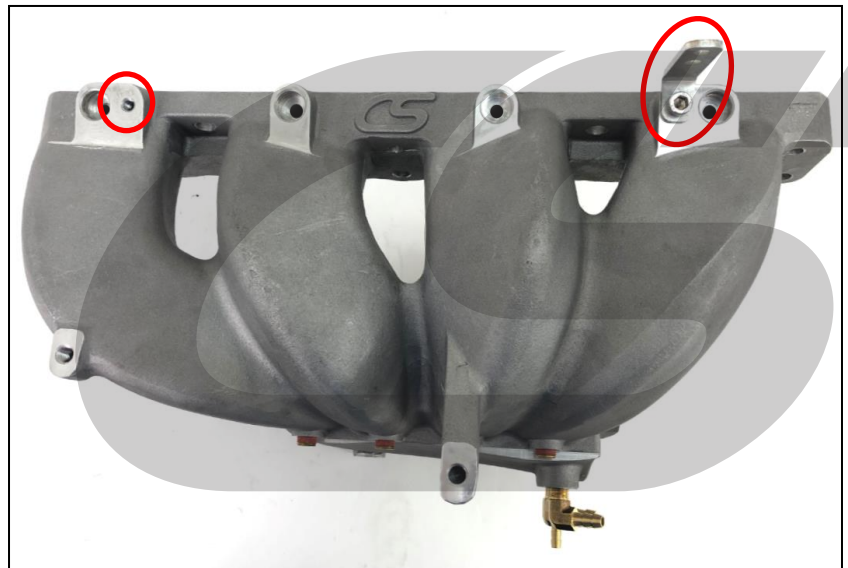

Figure 11a
- a) **Attach the fuel rail brackets to the intake manifold** using the supplied M6x1.0x12mm socket head cap screws. Ensure they are straight before tightening until snug with a 5mm Allen wrench/socket. One shown installed in Figure 11a.